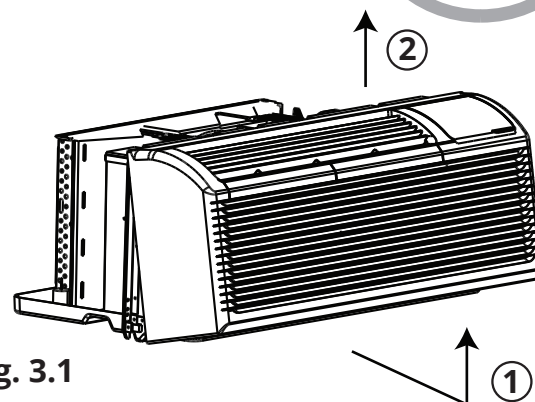

Fig. 3.1
- The DIP switch controls are located behind the front panel through an opening that is beneath the control panel. To gain access to this, the front panel will need to be removed. Please refer to **Fig. 3.1** for the proper procedure of removing the front panel.